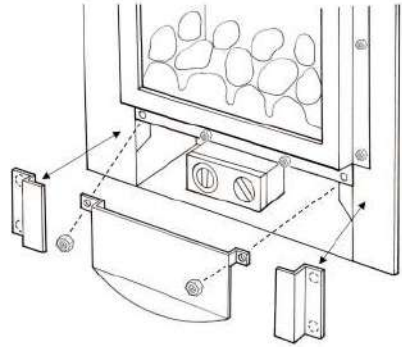

Figure 48
3. Fit the infill plate & Covers (See Figure 48)